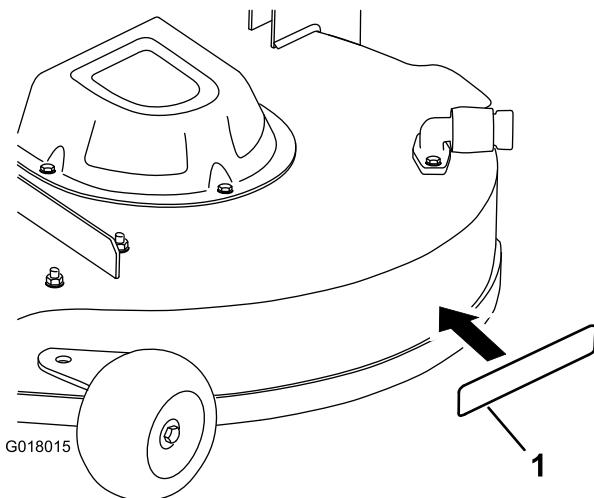

Figure 7
6. Install the decal to the area shown in Figure 7.
- C. Peel the decal from the backing and install it in place (Figure 7).